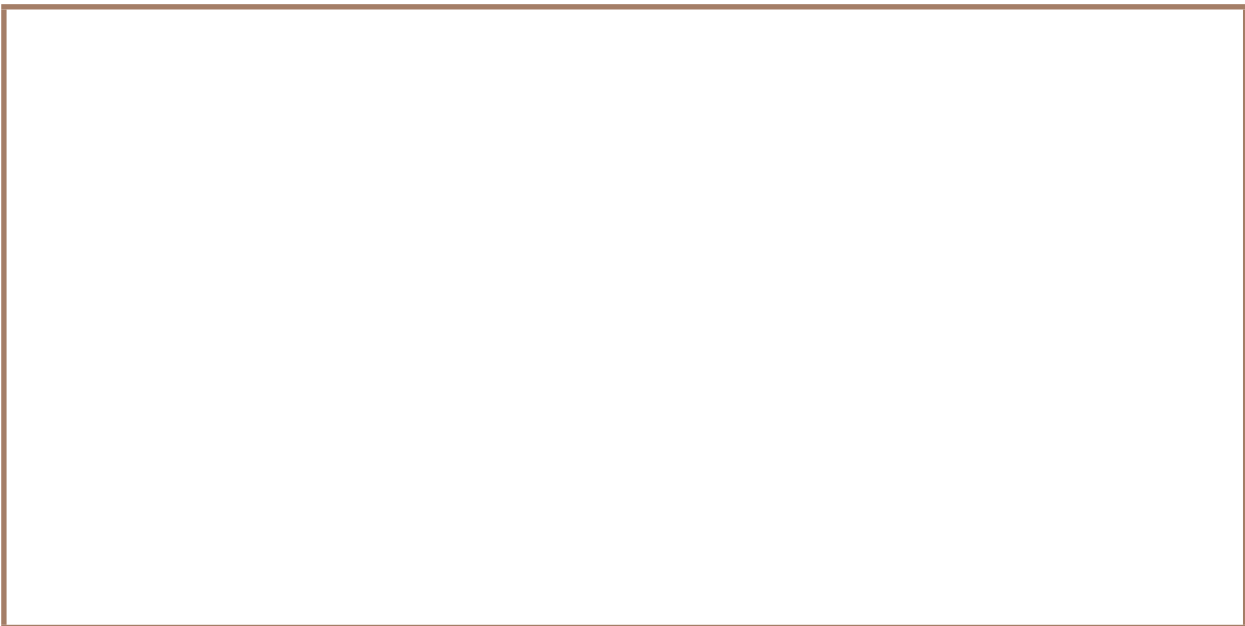
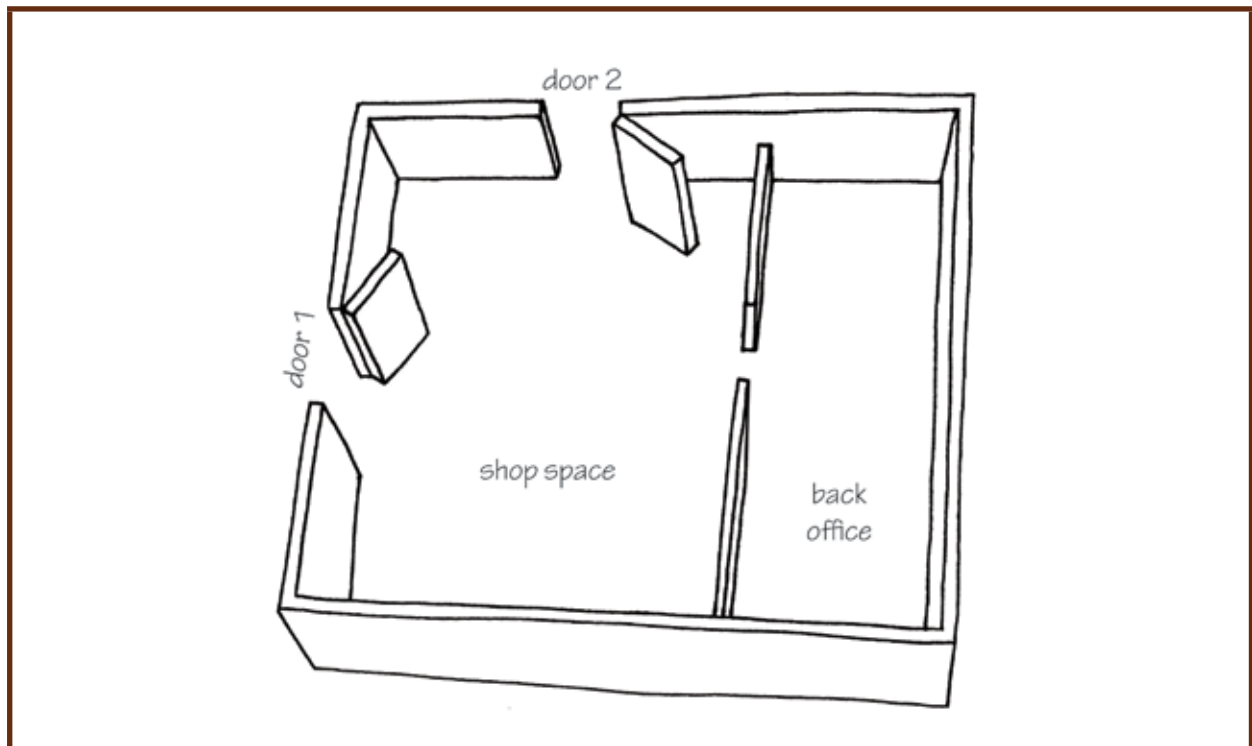

Figure 12: The circuit diagram for your design of the alarm system
Figure 13: A design of the placement and wiring of the alarm system
4. Show more information on your circuit diagram in Figure 12. Draw dashed lines around the part of the circuit that is in the front of the shop, and other dashed lines around the part that is in the office.
Figure 13 shows a simple sketch of the shop.
Draw on Figure 13 to show where you will put all the switches and other circuit components. Also show the connecting wires for the circuit. Put in labels for the circuit components. The circuit components should be connected as shown by the circuit diagram that you made for Figure 12. [6]
Now add all your circuit components and conducting wires to your cardboard model of the shop. Your design of the placement and wiring of the alarm system in Figure 13 will help you to connect all the circuit components in the correct way.